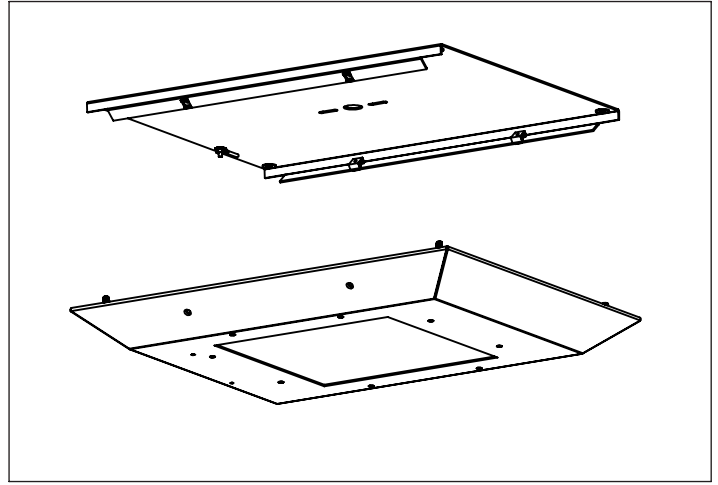

Figure 2
2. Remove frame from back plate (Fig. 2)